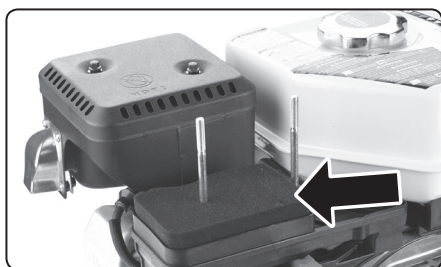

Fig. 7, illustrative picture of the air filter location
- To access the air filter, screw off the wing nuts securing the air filter cover in place and then remove the cover (fig. 7).